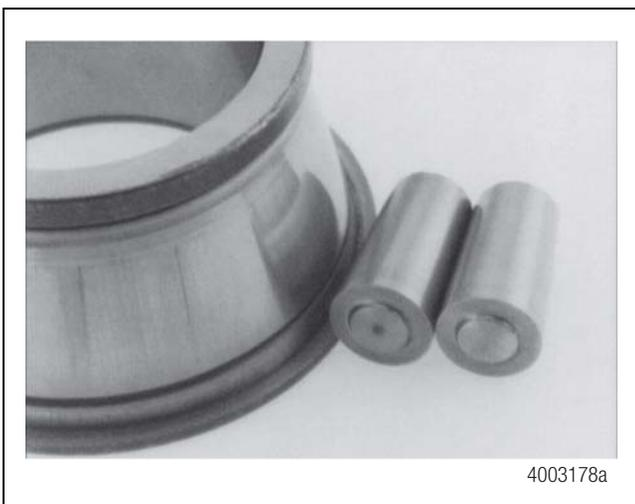

Figure 4.8
A. The roller ends are worn. Figure 4.8.